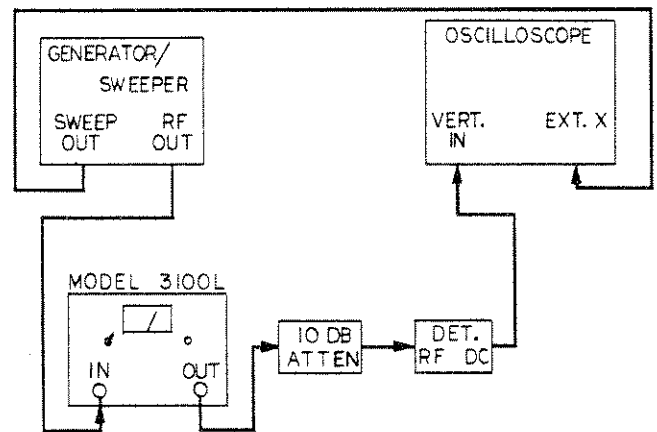

Figure 5-1. Gain and Gain Variation Test Set Up
- a. Set-up the test equipment as shown in figure 5.1.
- h. Reconnect Model 3100L into the test set up of figure 5-1.